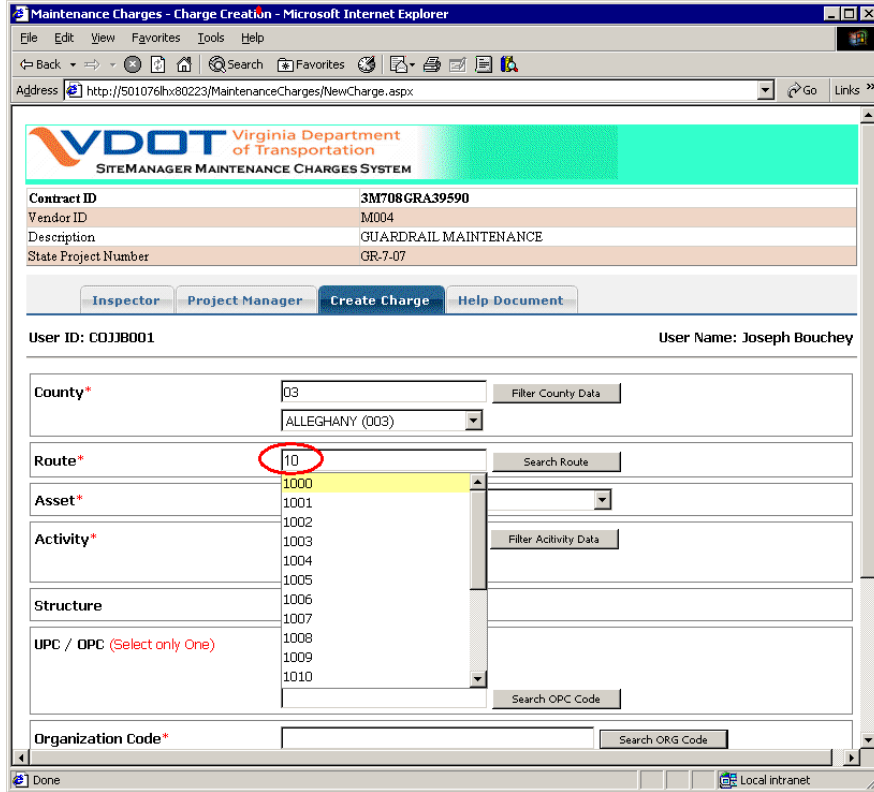
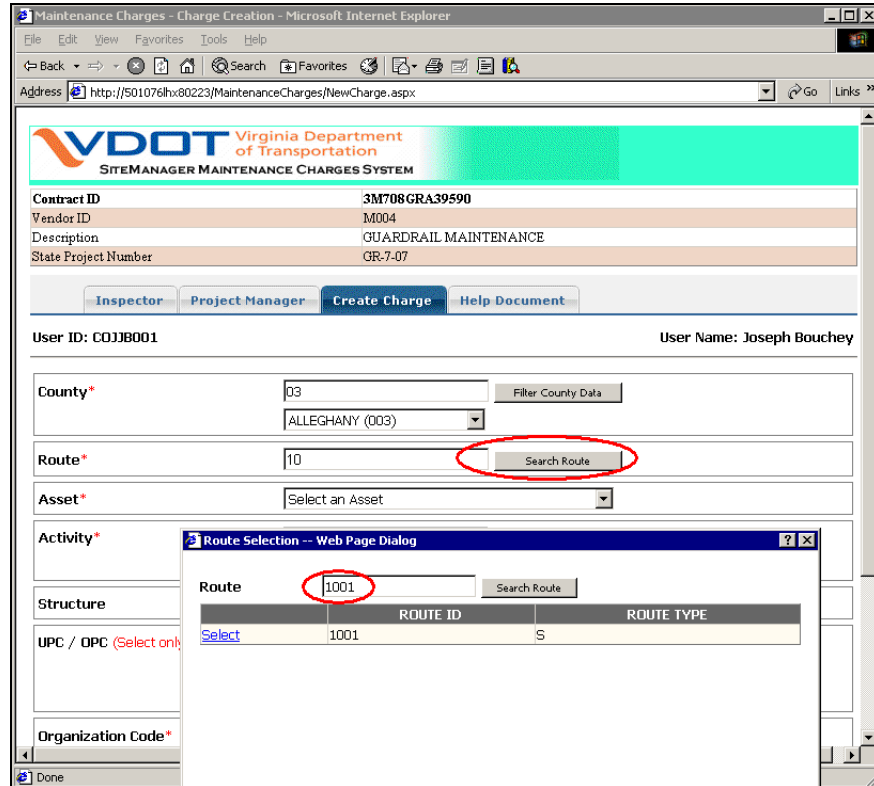

Figure 22
Figure 22a
Step 3: Once the County has been selected. All the routes that are present in the County are populated in the Route Dropdown after you enter at least 2 digits (Figure 22). Only 20 matches will be listed initially. If there is more than 20 possible matching routes, click the **Search Route** for all possible matches. Also, next to each route, the route type will be displayed: Primary (P), Secondary (S) or Interstate (I). Select the appropriate Route ID (Figure 22a)